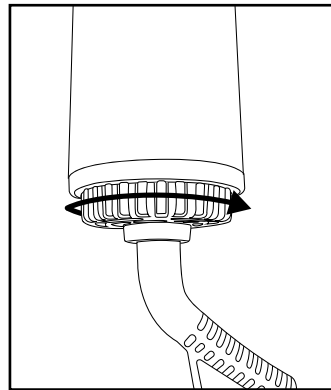
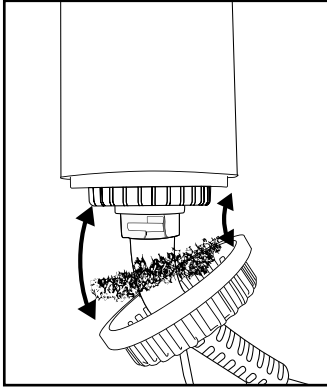

Fig. 3
Fig. 4
- Remove hair from the attachments ⑧-⑪ with your fingers. Place the attachments ⑧-⑪ in lukewarm water to clean them. You can use mild detergents, but make sure to rinse it off thoroughly afterwards with water. Allow the attachments ⑧-⑪ to dry completely before re-attaching them to the appliance.
- Make sure that the air intake grille ④ is free of hair and fluff. Clean it with the help of a dry brush.
- Clean the filter behind the air intake grille ④ at regular intervals, at the latest when dirt is visible. To do this, remove the air intake grille ④ (see figs. 3 and 4) by turning it until it stops moving and then pulling it down (if necessary, turn it slightly back and forth at the same time). Remove lint and dirt from the filter with your fingers and a soft brush if necessary. Press the filter back into the basket of the air intake grille ④ so that you can then put the air intake grille ④ back on. Slide the air intake grille ④ onto the receptacle on the appliance and screw it tight. Note the two small recesses on the base of the power cable ⑥ (see fig. 4), into which the matching counterparts on the inside of the opening in the air intake grille ④ must be pushed.